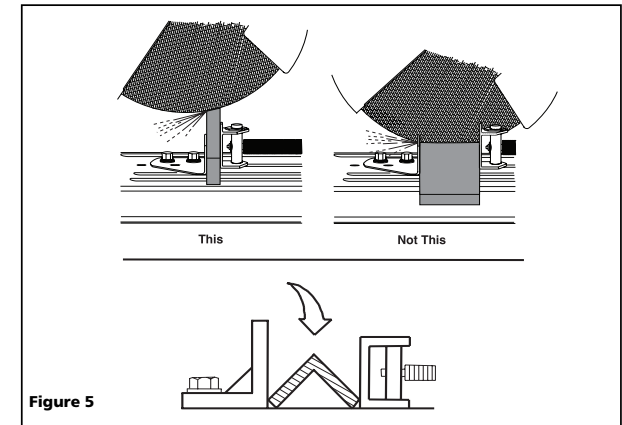

Figure 5
- The cut-off saw will cut most effectively if the wheel is cutting the thinnest section possible, as shown in Figure 5. On angled work, place the acute opening face down on the worktable also shown in Figure 5. This allows efficient cutting by the abrasive wheel.